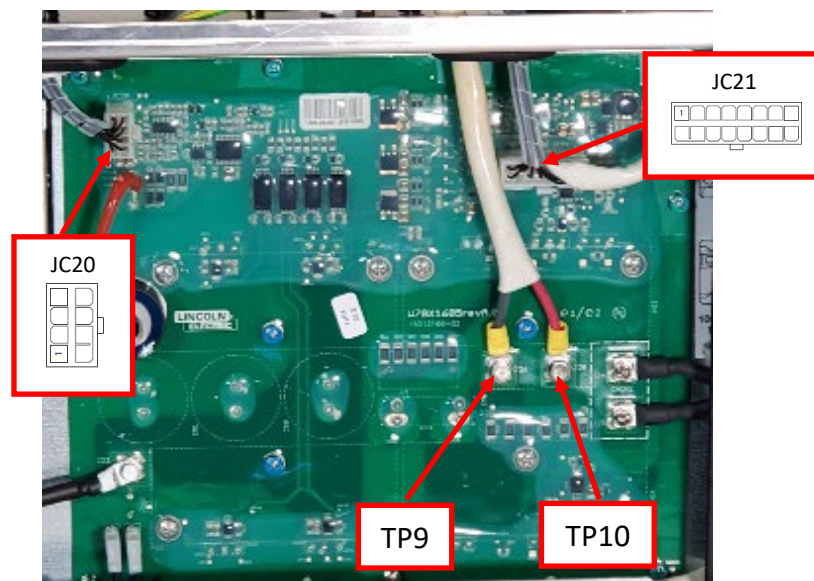

Figure F.5
B.3. Perform the measurements in Test Table 3 below, refer to Figure F.5 for test point locations.